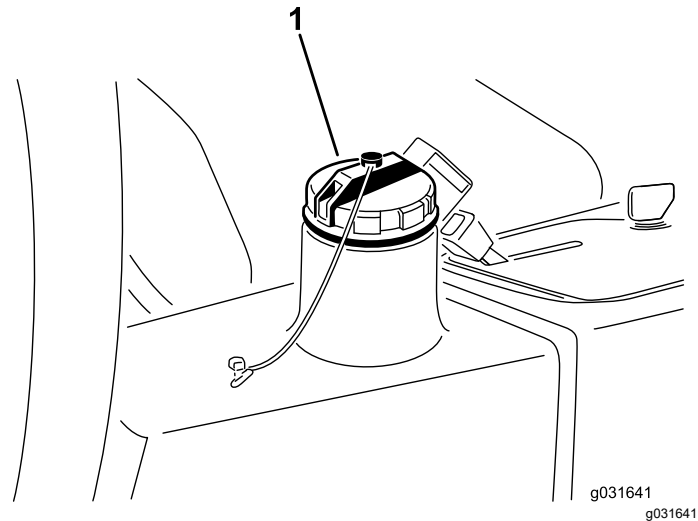

Figure 65
4. Fill the reservoir (Figure 65) with approximately 13.2 L (3.5 US gallons) of hydraulic fluid; refer to Hydraulic Fluid Specifications \(page 52\) and Checking the Hydraulic Fluid Level \(page 52\).